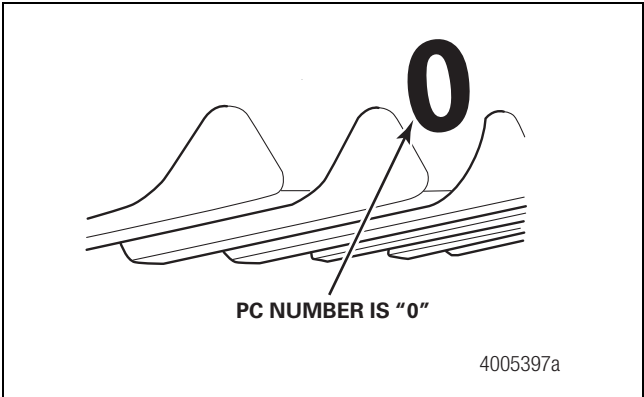

Figure 5.5
A zero (0) PC number designates no deviation from the designed nominal dimension. Figure 5.5.